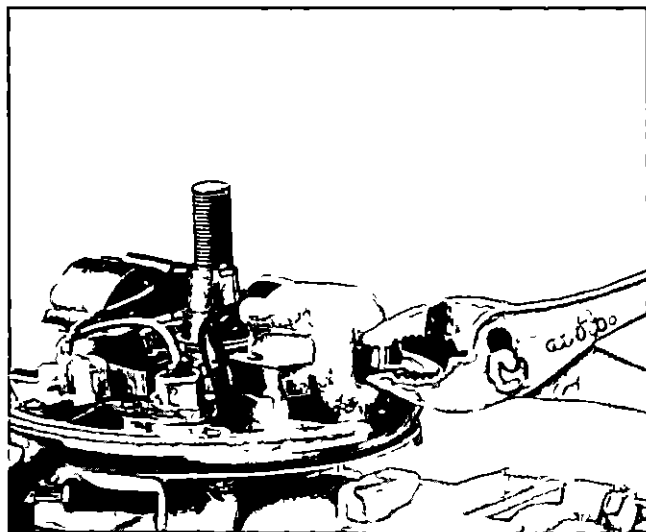

Figure 34. Straightening Coil Laminations.
- 5 Straighten coil lamination retaining coil as shown in Figure 34
- 4 Push coil remainder of way on laminations until coil wedge spring snaps into place at rear of laminations Large lip on coil wedge spring must be positioned over front coil surface Bend bottom coil lamination to retain coil Figure 34